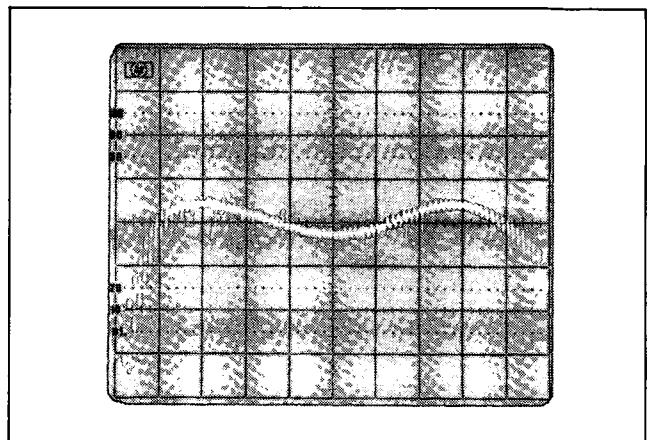

Figure 5-16. High Frequency Harmonic Distortion Adjustment
I. Using a non-ferrous screwdriver, adjust A1C218 until the X-Y plot is centered (average of positive and negative deviations is 0V) around the oscilloscope's x-axis graticule (see Figure 5-16).
J. Adjust A1C307 and A1C308 until the X-Y plot is as flat as possible. (Note: Adjusting A1C307 flattens the response while A1C308 minimizes harmonic distortion levels. (See Figure 5-16.)